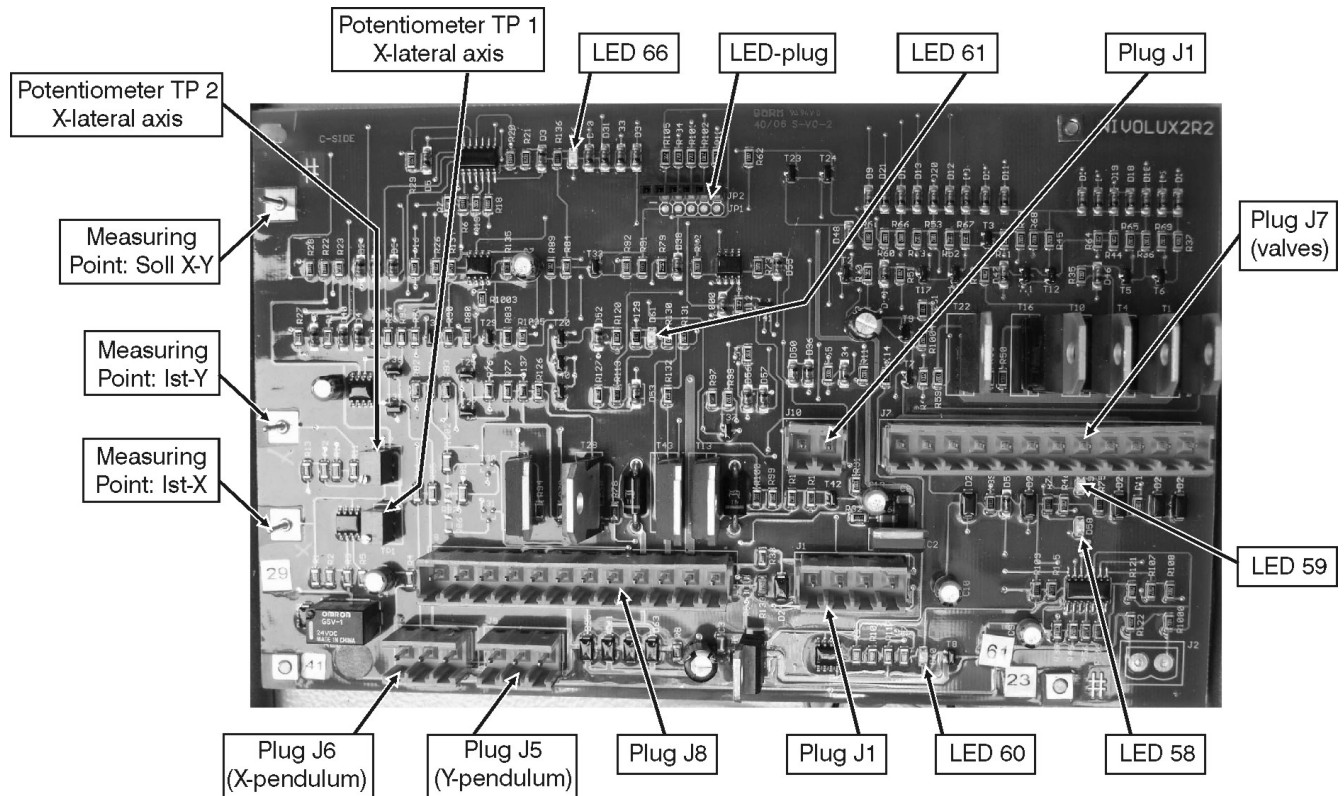

Figure 5-3. Nivolux Control Board
- Adjust **TP2** (see Figure 5-3.) with a small screwdriver until your voltmeter shows zero. Turning counter-clockwise reduces the value.